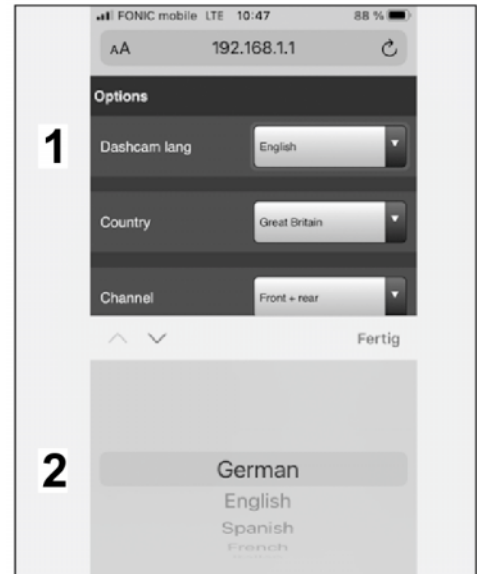

Figure 24
5.3 Basic settings for front camera (dashcam) in the "Options" menu item (⇒ *Figure 24*)
Example: German (⇒ *Figure 24*)